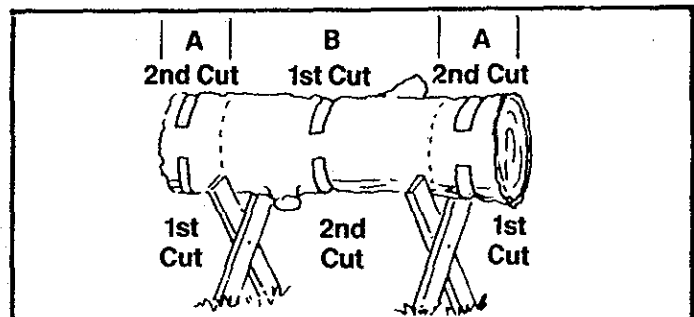

Figure 29
5. BUCKING — USING A STAND (Figure 29):